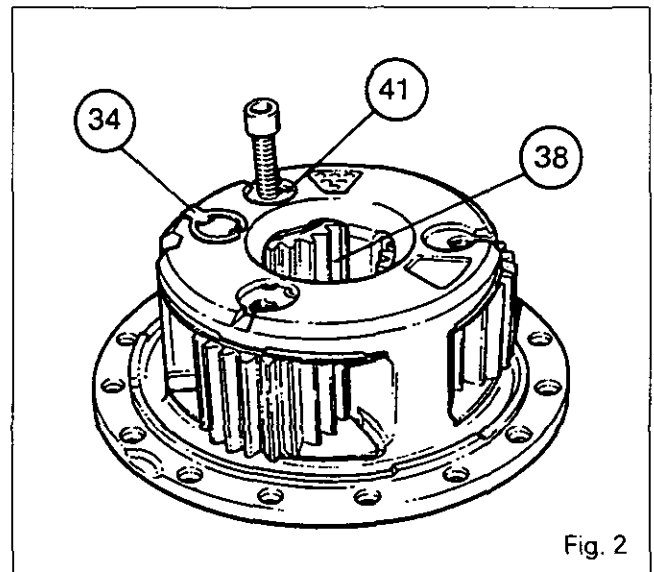

Fig. 2
Disassembling the planetary carrier (Fig. 2)
13. Coat the needles with bearing grease and position them in each planetary pinion (38).
14. Fit the prepared planetary pinions in the planetary carrier (36).
15. Centre the planetary pinions and the plates. Position and fit the gear pins (41), with the tapped holes facing the notches on the planetary carrier as shown in Fig. 2. Fit the circlips (34).